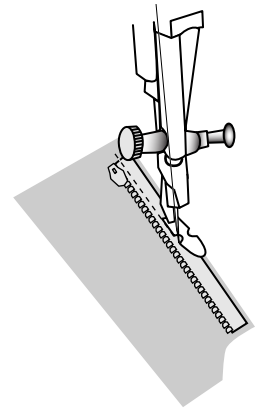

Figure 25
3. Machine stitch close to zipper teeth. (Figure 25) If pattern includes a facing, trim back to the center front line and apply to the zipper opening.